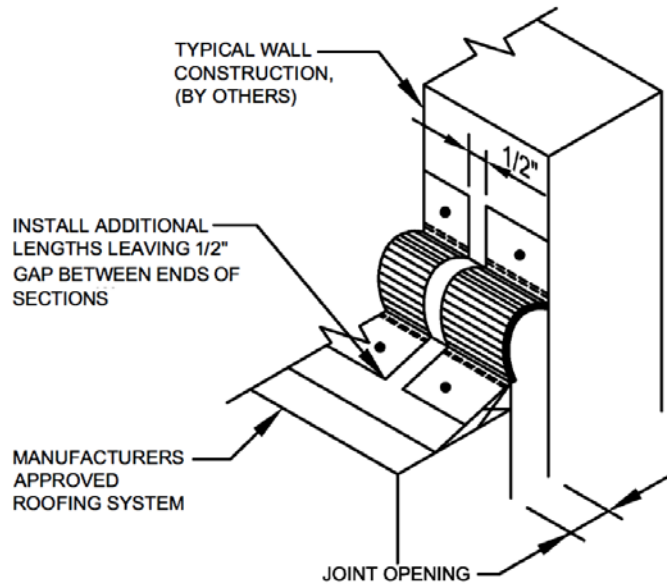

Figure 10
- 10.** Repeat steps 1 - 5 for remaining sections, being sure to provide 1/2" gap between ends of sections. Provide full splice at each of these locations as described in the splicing installation instructions. **See Figure 10**